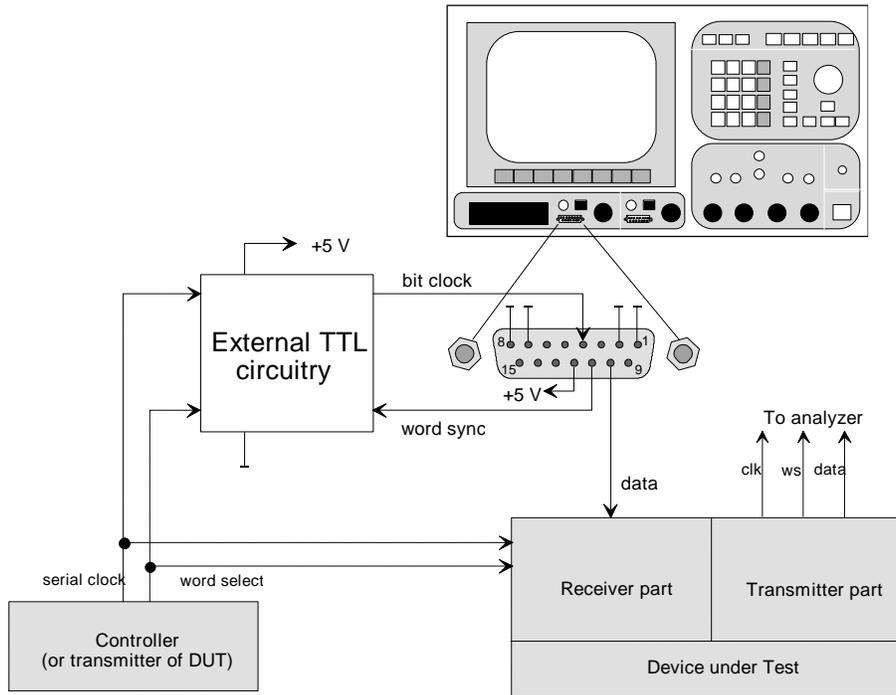

Fig. 7: UPD generator operating as a slave
This is not a very frequent application. A possible example would be the measurement on a D/A converter, with the clock and word select signals being generated by the DUT itself so that the test generator needs to be synchronized to the DUT. The clock signals may also be taken from a controller circuit as shown in Fig. 7.
This operating mode of Audio Analyzer UPD is also possible, the data generator must however be synchronized via an external circuit. The DUT or test setup must provide the system clock (bit clock) and the word clock while the UPD generates the data contents. Fig. 7 shows the test setup for this application. The external circuit generates the clock signal for the UPD from the two input signals. With this clock signal, data bits are output by the UPD, the number of bits per data word being defined in the generator panel. The word sync signal generated by the UPD is taken back to the external circuit for synchronization with the external word clock.
Any 5 V TTL logic components may be used for configuring this circuit. In the example shown a dual-D flipflop 74HCT74, a quad XOR gate 74HCT86 and a quad NOR gate 74HCT02 are used. This additional logic circuit is powered from the UPD. For this purpose a 5 V line is brought out at pin 12 of the serial output connector from which a current drain of 50 mA max. is available. The ground signal is present at pins 1, 2, 7 and 8 (see also Fig. 7).
The external word clock signal is compared in the XOR gate with the word select signal from the UPD. If the signals are identical, the output of gate is at low and a clock signal is applied to the UPD via the NOR gate as shown in Fig. 7 above. After switchover of the external word clock signal, a high signal is through-connected to the output of flipflop upon the next rising edge of the external clock signal on line ①. The following NOR gate is inhibited. Since there is now no clock signal, the output lines of the UPD remain unchanged. In the example shown the UPD stops upon output of data bit "7". Switching the external word clock again enables the clock for the UPD, whereupon data bit "8" from channel A is output. This is the last data bit set in the UPD generator panel under *Wordlength = 8*, whereupon the UPD sets the word select line to high for the subsequent output of channel B. The bit clock signal at the output of the NOR gate is however interrupted again since the channel coding of the external word clock signal does not agree with that of the UPD. Subsequently, data will not be output.
Fig. 7 also shows the digital analysis of the audio signals from the DUT. The test configuration corresponds to that described in section 7, the analyzer operating as a slave and using serial input interfaces.